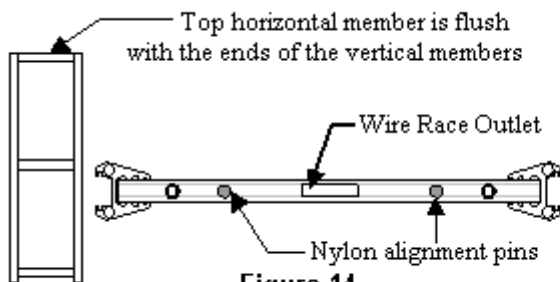

**Figure 13 Anchor Barrier**
- Drill and set anchor bolts as shown in Figure 13 below.